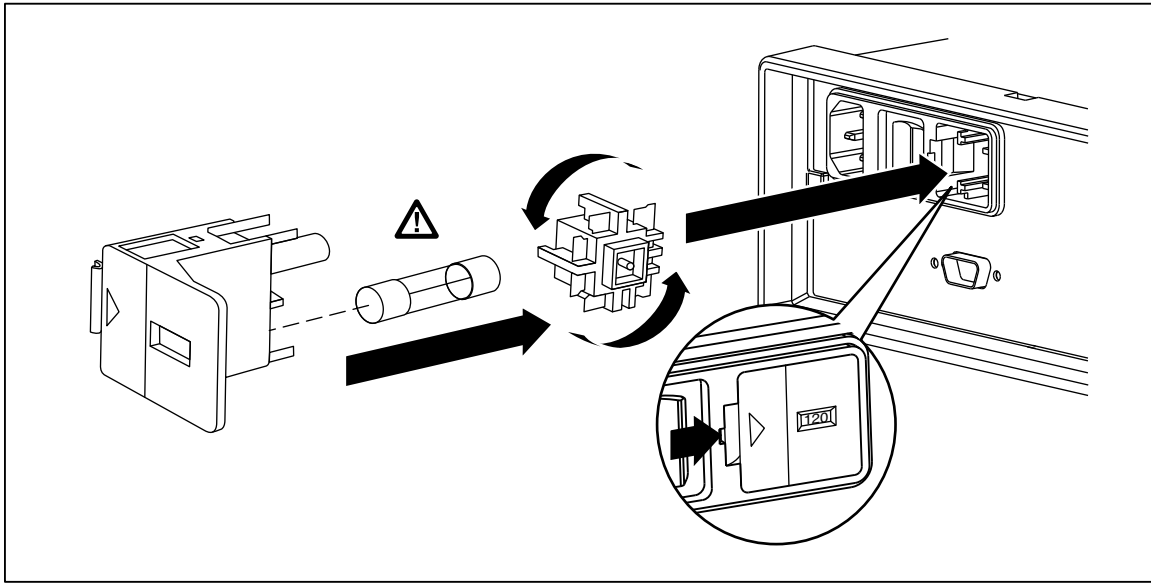

Figure 2-1. Replacing the Line Power Fuse
2. Insert a small screwdriver blade into the narrow recess to the left of the fuse holder and pry it to the right until the holder pops out. See Figure 2-1.